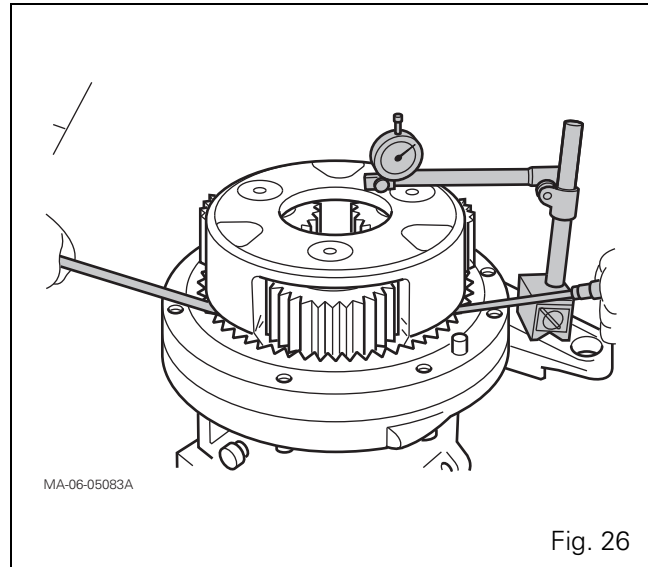

Fig. 26
93. Place a dial gauge on the planet carrier with its index positioned near the centre (Fig. 26, Fig. 27). Set the dial gauge to zero.
94. Using suitable levers, move the planet carrier vertically (Fig. 26). Repeat this operation several times. Take the average of the clearances **J** measured by the dial gauge during each movement.